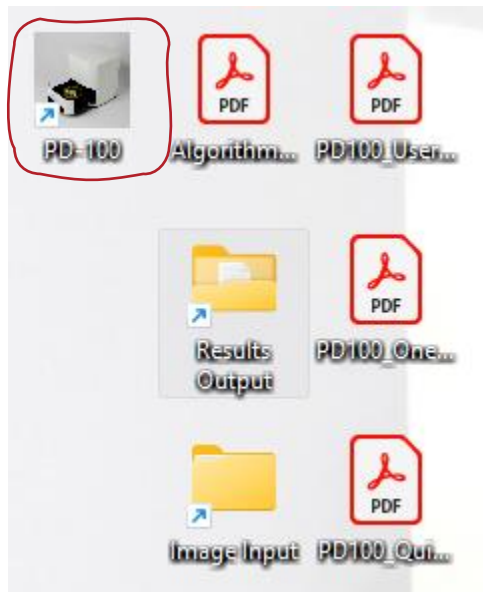

Figure 3 – PD-100 Icon
4. Start the PD-100 program by clicking the Icon on the desktop, see Figure 3.
5. SA Yellow is the preferred algorithm and default from start. The Bacteria Specie on the AST sample determines which algorithm to choose. See Figure 5 or see the overview in the file "ALGORITHME OVERVIEW" found on the desktop, see Figure 3.